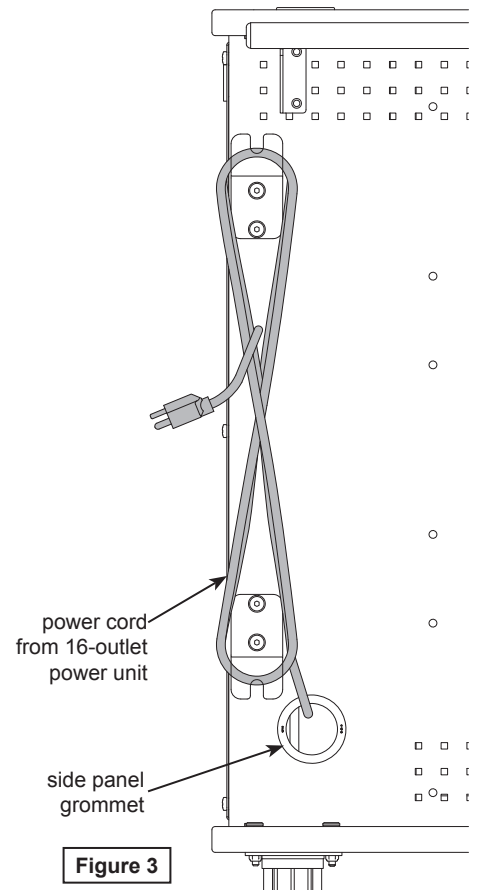

Figure 3
2. Route each power cord through each side panel grommet as shown in **Figure 3**.